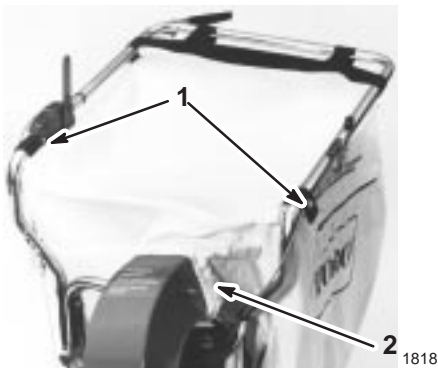

Figure 8
2. Position the bag onto the handle, hooking the grommets over the pins and the bag strap over the handle (Fig. 8).
3. Slip the elasticized neck of the bag over the flanges on the chute (Fig. 8).